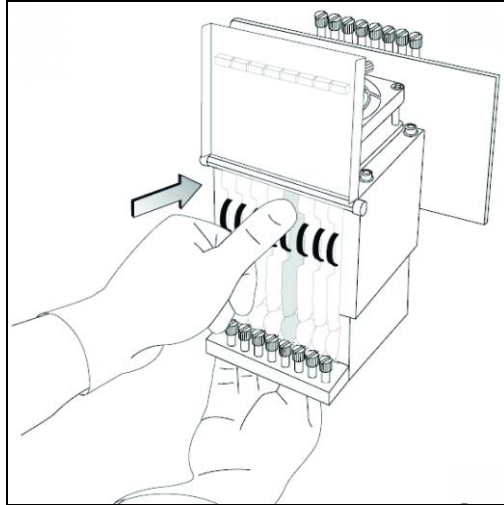

Figure 6-63: Inserting the print-head driver card into its socket
- b. Re-insert the print-head driver card into its socket (see figure 6-63 on page 45).